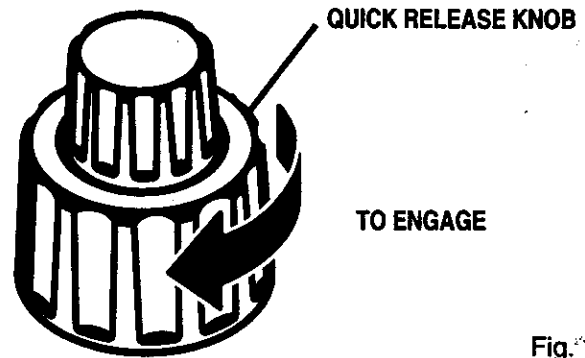

Fig. 17
- Rotate the quick release knob to the right or clockwise 1/4 turn to engage tension before using the band saw. See Figure 17.